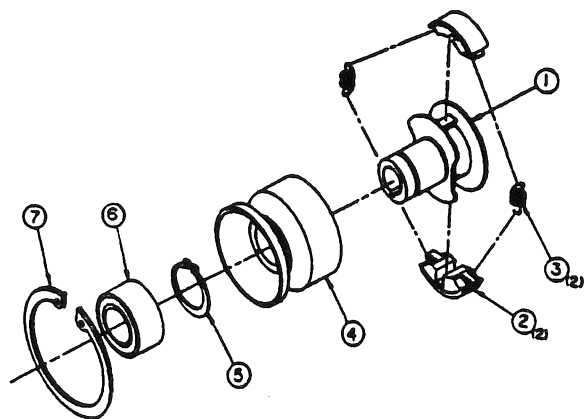

fig. 23
- Remove clutch from shaft by loosening 7/16-20 x 1 1/2" bolt (item 62, pg. 16) and washers. Remove key from key way.
- To disassemble, remove retainer ring and slide off drum assembly. See fig. 23 below.